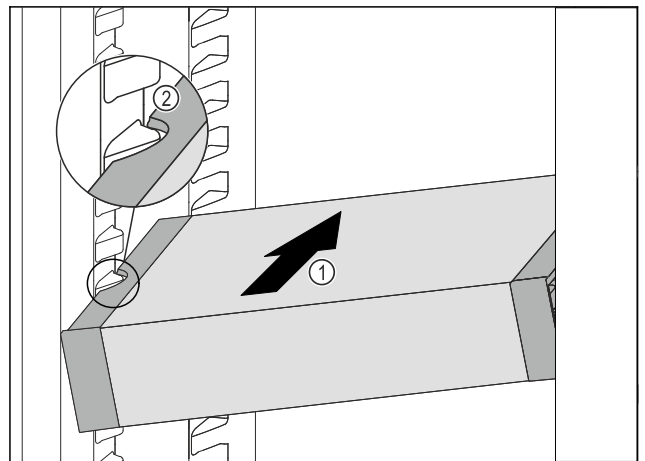

Fig. 89
- Insert the VarioSafe into the fridge section at an angle Fig. 89 (1) until the recesses in the side Fig. 89 (2) of the VarioSafe are at the level of the support rib in the fridge section.